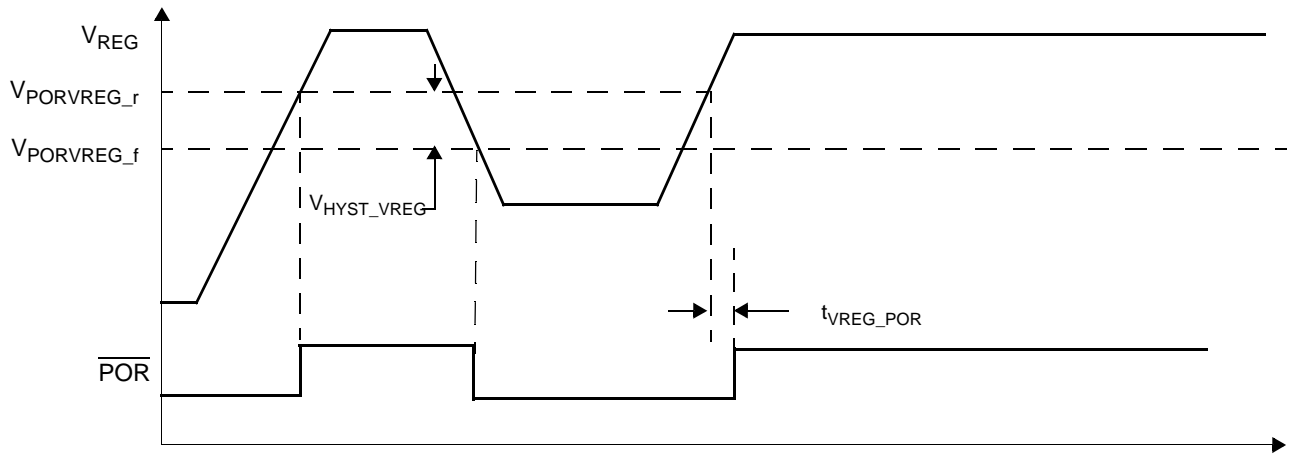

Figure 6.  $V_{REG}$  Under Voltage Detection
| 95  | $V_{REG}$ Undervoltage Reset Delay (See Figure 6)$V_{REG} < V_{PORVREG\_f}$ to POR assertion                             | $t_{VREG\_POR}$         | —             | —                 | 5                 | $\mu$ s     | (3) |